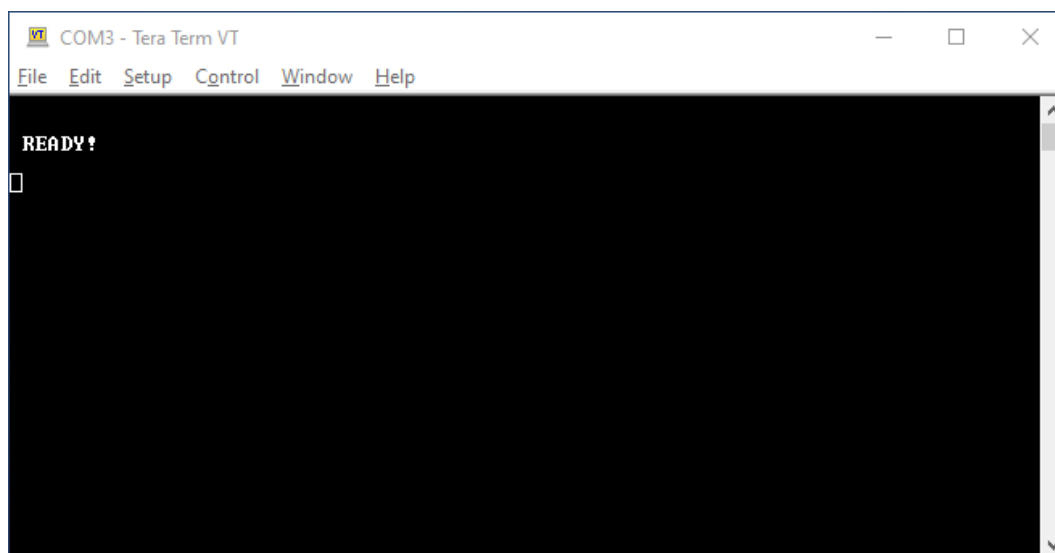

Figure 13. Console Screen – Ready for Software Image Download
5. Press **Enter** to activate Image Download Mode. LED D3 starts blinking fast and a **READY!** message is displayed on the console screen (Figure 13). The bootloader waits to receive the image file by the USB serial interface. Each subsequent byte is interpreted as a part of the Image. **Warning!**: Be careful not to press any other buttons or the process compromises and must be restarted.